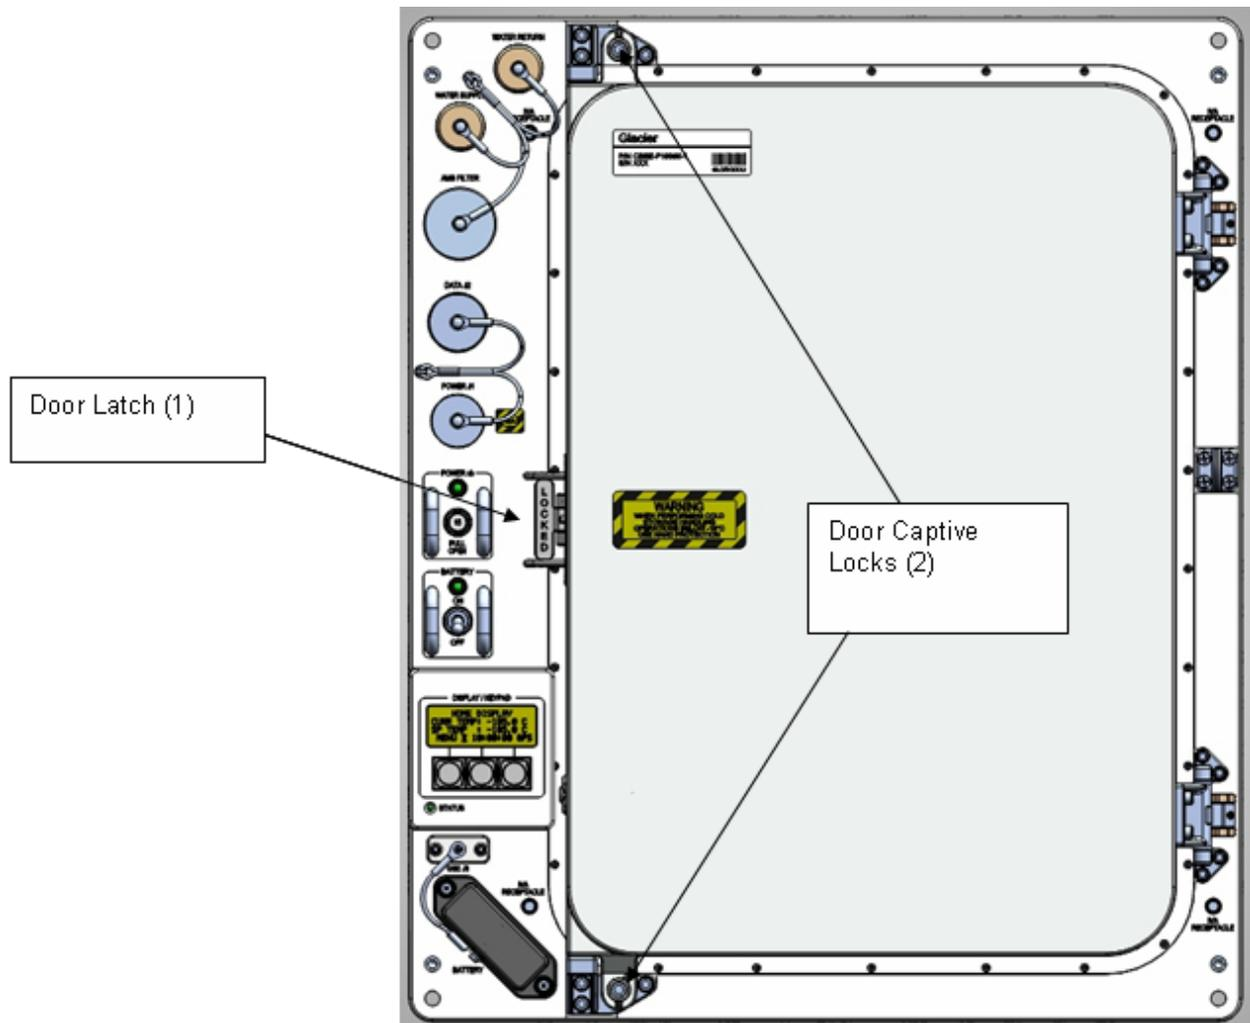

Figure 1. Glacier Configuration.
- 1.1 Unlock Glacier Door Captive Locks (two) using 3/16" Hex Head, 3/8" Drive; 1/4"-3/8" Adapter; 4" Extension, 1/4" Drive; Ratchet, 1/4" Drive. See Figure 1 Glacier Configuration.